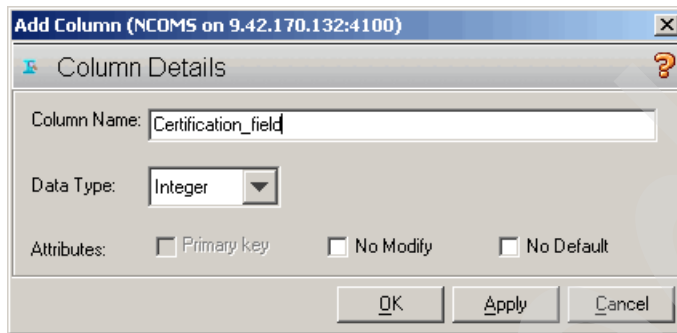

Figure 4-35 New column window
4. Select the Add Column () icon from the menu. The Add Column window is shown in Figure 4-35. Enter the Column Name and Data Type data and specify any additional attributes.